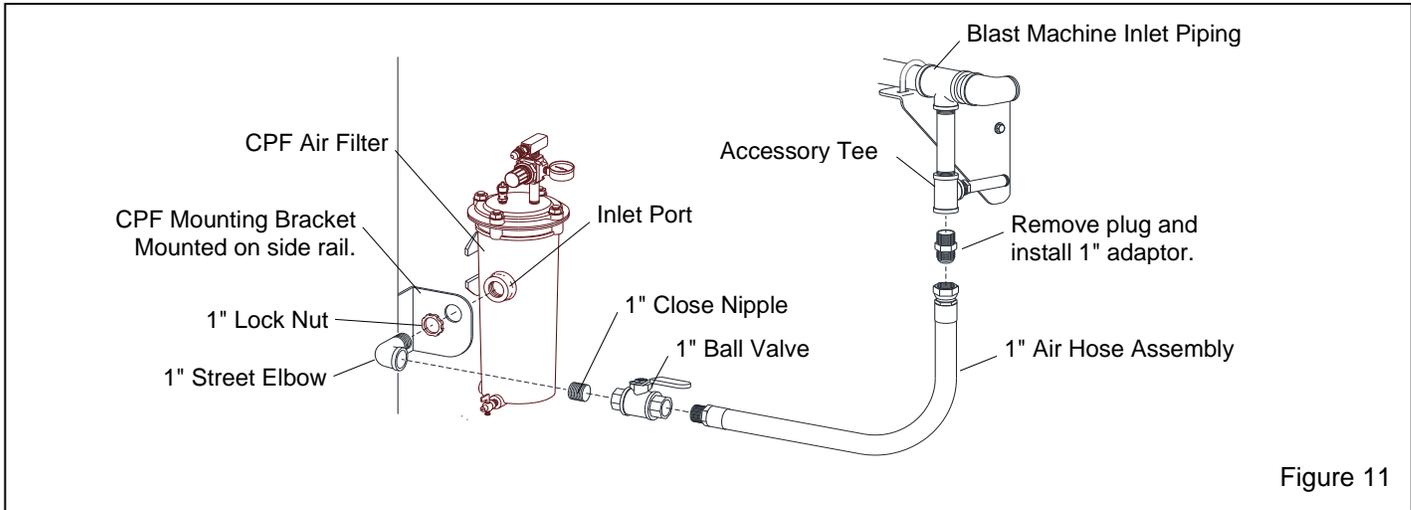

Figure 11
2.5 Breathing-Air Connections, Optional CPF Filter – Figure 11.
2.5.6 Install the close nipple, ball valve and male end of the hose assembly into the elbow, as shown in Figure 11.